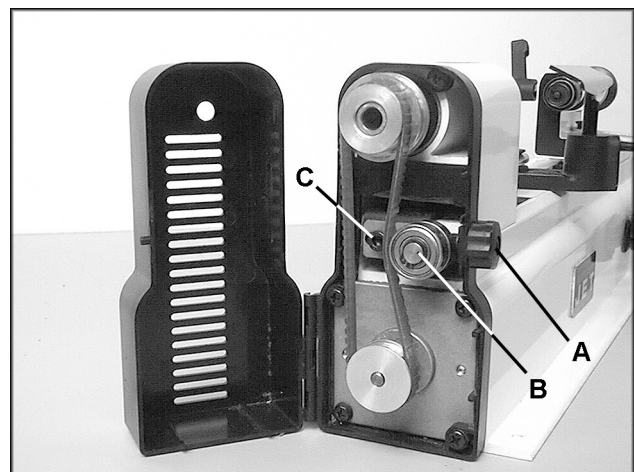

Fig. 6
1. To adjust tension of the drive belt, open the cover by turning the knob (A, Fig. 6) clockwise.
2. Loosen the screw (C, Fig. 6) using a hex wrench.
3. Slide the bearing (B, Fig. 6) left to increase tension, right to decrease tension.
1. To replace the drive belt, open the cover by turning the knob (A, Fig. 6) clockwise.
2. Loosen the screw (C, Fig. 6) using a hex wrench and slide the bearing (B, Fig. 6) to the right.